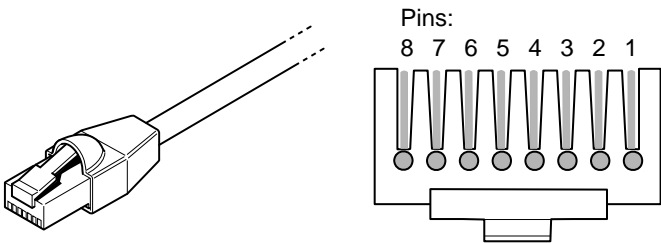

Figure 2-2 RJ-45 Connector
- Xanbus cables—each Xanbus-enabled device is connected by a Category 5 (CAT 5 or CAT 5e) cable. The cable consists of eight conductors in four twisted pairs with an RJ-45 modular connector wired to the T568A standard. See Figure 2-2 on page 2–4. A 7 foot (2.1 meter) network cable is included with the System Control Panel. If more cables or a different length are required, these standard cables can be purchased from Xantrex or any computer supply store.